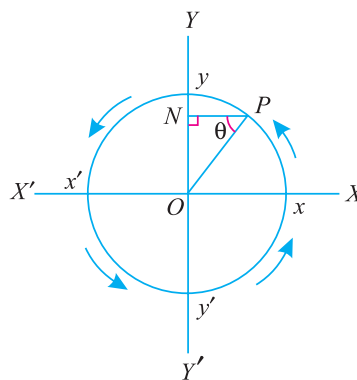

Fig. 23.1. S.H.M.
Consider a particle starting from  $x$  and moving round the circumference of circle in an anti-clockwise direction, with a constant angular velocity, as shown in Fig. 23.1. Let  $P$  be the position of the particle at any instant and  $N$  be the projection of  $P$  on the diameter  $Y-Y'$  of the circle.
1. **Amplitude.** It is the maximum displacement of a body, from its mean position. In Fig. 23.1,  $Oy$  and  $Oy'$  is the amplitude of the particle  $N$ . The amplitude is always equal to the radius of the circle.
2. **Oscillation.** It is one complete vibration of a body. In Fig. 23.1, when the body moves from  $y$  to  $y'$  and then back to  $y$  (or in other words from  $O$  to  $y$ ,  $y$  to  $y'$  and then  $y'$  to  $O$ ), it is said to have completed one oscillation.
3. **Beat.** It is half of the oscillation. In Fig. 23.1, when the body moves from  $y$  to  $y'$  or  $y'$  to  $y$  (or in other words  $O$  to  $y'$  and then  $y'$  to  $O$ ), it is said to have completed one beat.